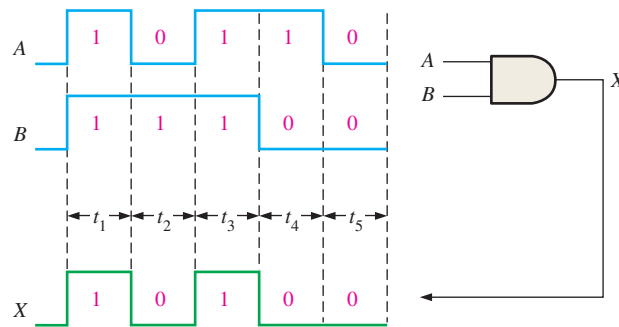

FIGURE 3–10 Example of AND gate operation with a timing diagram showing input and output relationships.
Let's examine the waveform operation of an AND gate by looking at the inputs with respect to each other in order to determine the output level at any given time. In Figure 3–10, inputs *A* and *B* are both HIGH (1) during the time interval, t_1 , making output *X* HIGH (1) during this interval. During time interval t_2 , input *A* is LOW (0) and input *B* is HIGH (1), so the output is LOW (0). During time interval t_3 , both inputs are HIGH (1) again, and therefore the output is HIGH (1). During time interval t_4 , input *A* is HIGH (1) and input *B* is LOW (0), resulting in a LOW (0) output. Finally, during time interval t_5 , input *A* is LOW (0), input *B* is LOW (0), and the output is therefore LOW (0). As you know, a diagram of input and output waveforms showing time relationships is called a *timing diagram*.